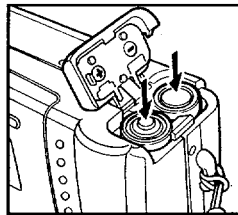

Fig.3 Abb.3 圖.3
- With the battery inserted incorrectly, the camera will not work. Make sure the battery is installed as shown in **Fig. 3.**